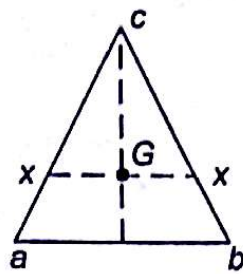

Fig. 8.18
8.3 Fig. 8.18 shows a triangle, with base ab and centroidal axes xx . If $I_{xx} = 150 \text{ cm}^4$, what is I_{ab} ?